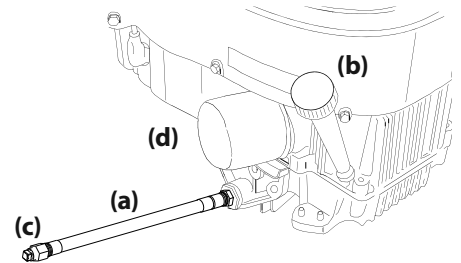

Figure 32
3. While holding the free end of the oil drain hose over the oil collection container, unscrew the square head hose plug (c) from the end of the oil drain hose. See Figure 32. Drain the engine oil into the collection container.